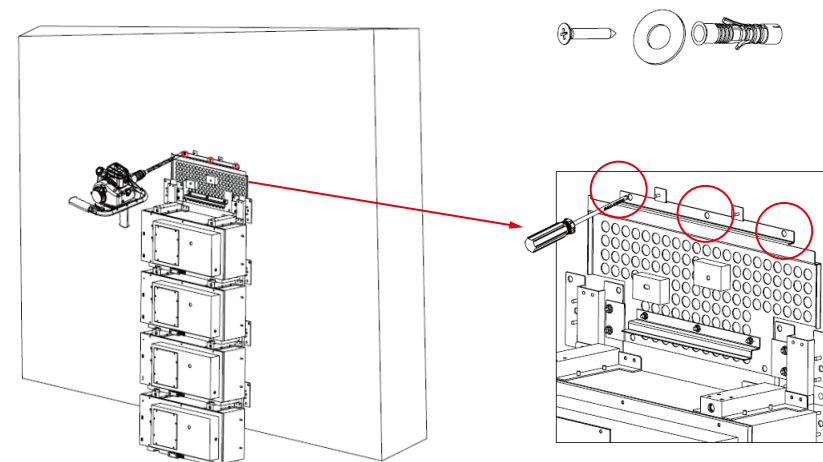

Figure 18 Installation of the Rear Bracket of HV50056
Step 9 Cover the PE bag on the top battery to block out the dust before drilling. Please drill holes directly on the wall at the marking positions of the brackets with an impact drill (bit ϕ 8.0mm, length 20cm), and the depth each hole is about 7 cm. Please insert the expansion tube into the drilled hole. Pass the tapping screw through the gasket and lock with a screwdriver, as Figure 18 shows.